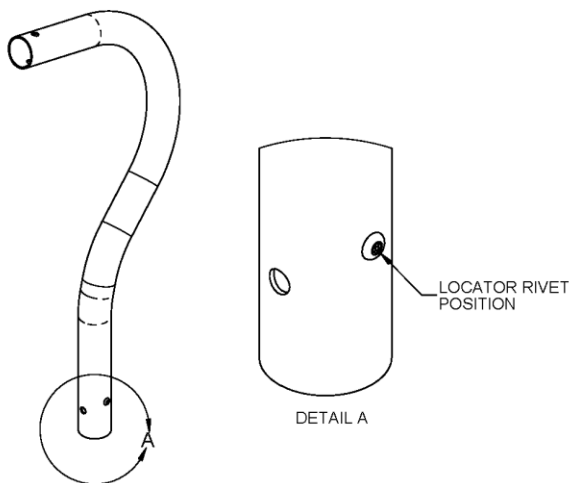

Figure 1: G12324 LH Cyclic Stick
3. Inspect the G12324 LH Cyclic Stick for the installation of a locator rivet as shown in Figure 1.